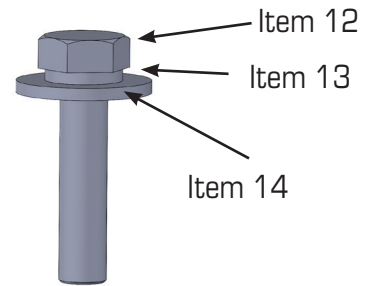

Fig. 1
1. Create a bolt assembly using one (1) of Item 12, Item 13, and Item 14 as shown in Fig. 1. Repeat this step 5 more times to create six (6) bolt assemblies.